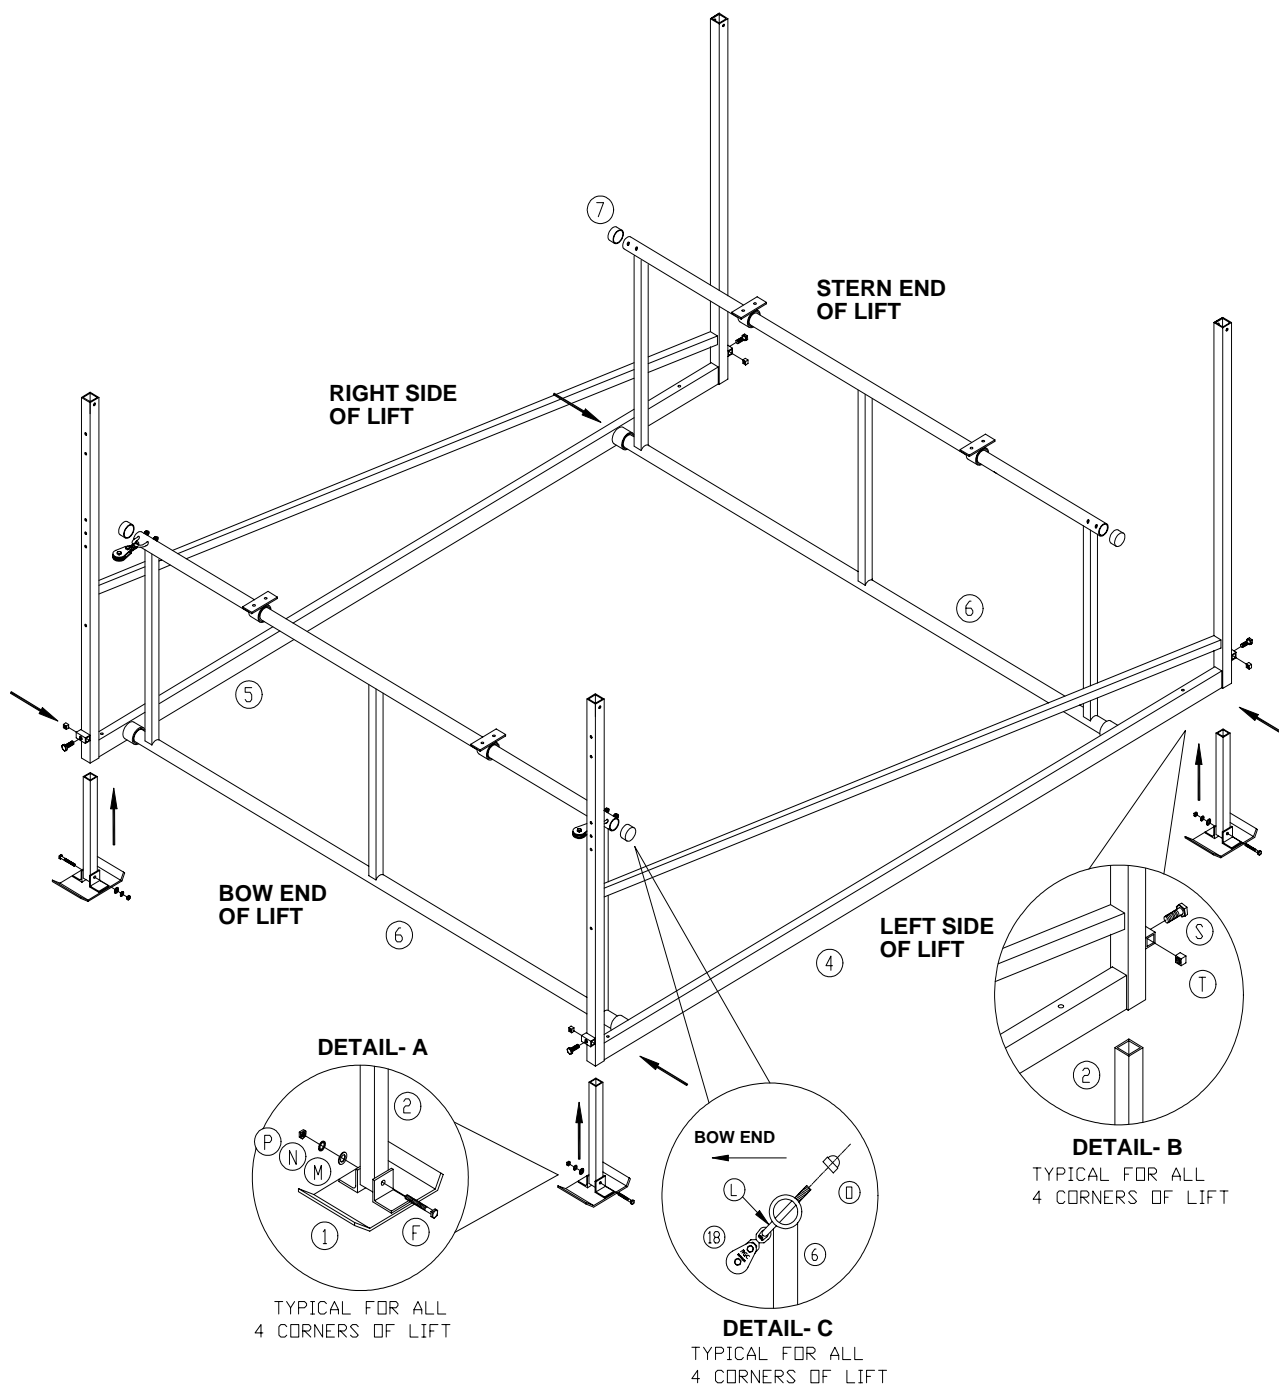

Figure 3-1.
1. Refer to **Figure 3-1**. Attach foot plate to extension leg as shown in **Detail A**. Repeat procedure for all four foot plates.
1. Refer to **Figure 3-1**. Insert plastic caps onto the tube ends containing the pivot bunk mounting brackets of the lifting arms.
1. Refer to **Figure 3-1. Detail C**. Insert a U-bolt through the swivel of a polymer block. Install a U-bolt and polymer block on each end of both lifting arm assemblies. Insure U-bolts are angled downward facing the bow end when the lifting arms are in the upright position.
1. Refer to **Figure 3-1**. Adjust extension legs to height required to keep lift level in its operating position. Tighten with lock screw at all four corners of lift as shown in **Detail B**.